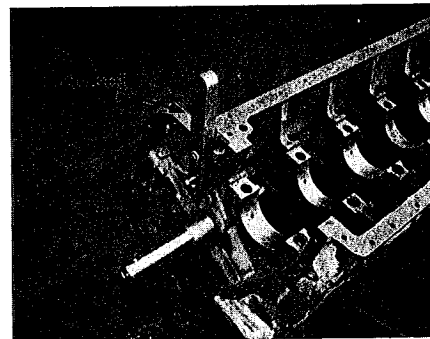

Fig 5 Torsion Bar Bracket in place
5. Loosely attach the Torsion Bar Bracket to the cylinder block (fig 5).